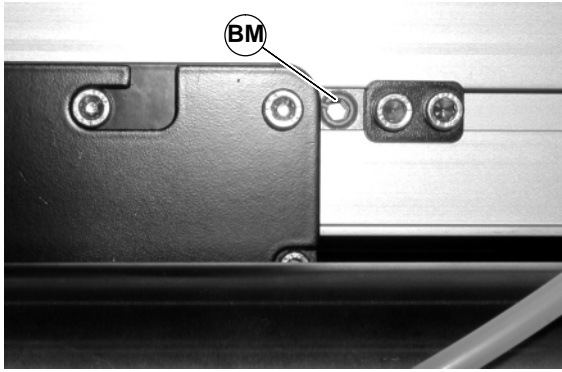

Figure 42
3. Rotate the tracking cam (BM of Figure 42) in small increments, each time inspecting the belt as it exits the center drive. Continue to rotate the tracking cam until conveyor belt is tracking normally.